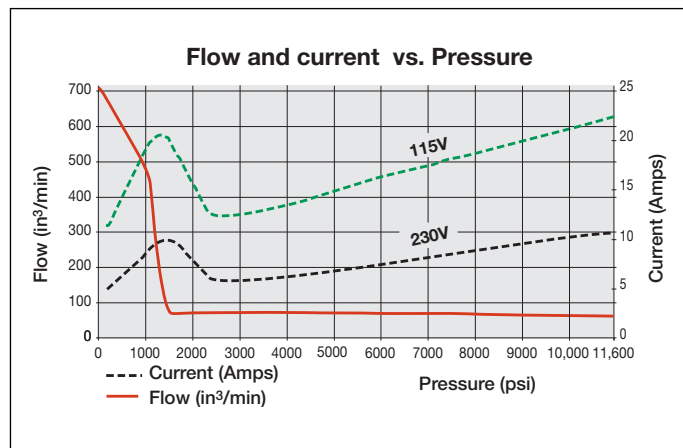

Figure 1, Flow Chart
3.2 Flow Chart (see Figure 1):
*Actual power consumption depends on the application. See Figure 1.
1. The disconnect and line circuit protection to be provided by customer. Line circuit protection to be 115% of motor full load current at maximum pressure of application (see Figure 1).